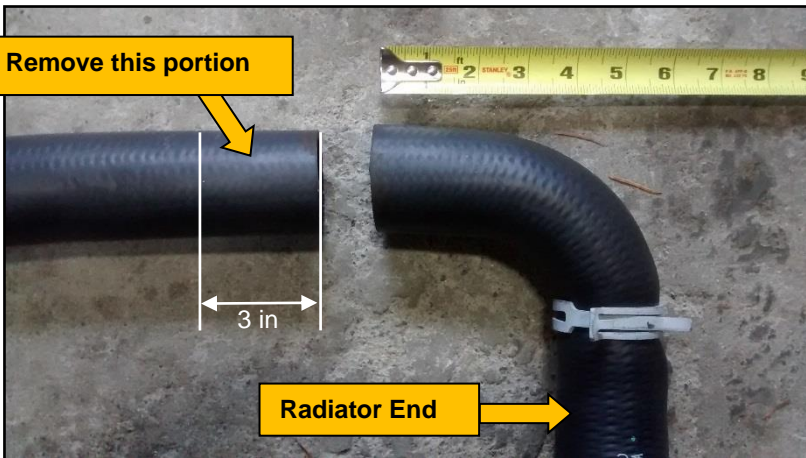

Figure 24 - Modifying the upper radiator hose
- Measure and cut the radiator hose at 5 in from bend at Radiator end, see (Figure 24).
- Make a second cut on the engine side of the straight portion of hose and remove 3 in of material (Figure 24).